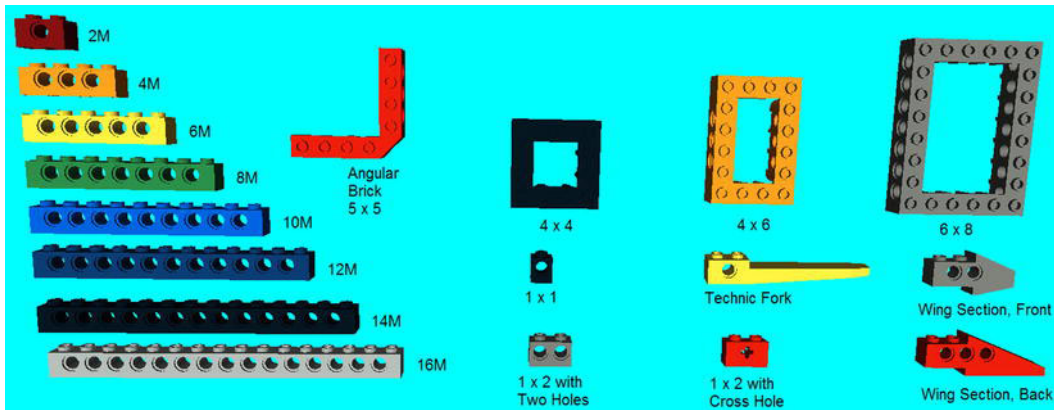

Figure 1-1. Some traditional LEGO Technic bricks
Technic Bricks are just like traditional LEGO bricks but with holes on the sides for axles and connector pegs (see Figure 1-1). Bricks, like most LEGO pieces, are measured by the amount of studs (the round bumpy parts atop a normal LEGO brick) on them, and this measurement is often abbreviated to M. Generally, the number of side holes is always one less than the studs, but there are some, like the 1 x 1 x 1 and 2 x 1 x 1, with the same amount of side holes as studs. There are some interesting methods to these pieces; for instance, the 2 x 1 x 1 has an axle or a cross-shaped hole. Note the variations with the Technic
- **Brick:** Any Technic brick shown in Figure 1-1 (and some I didn’t show).